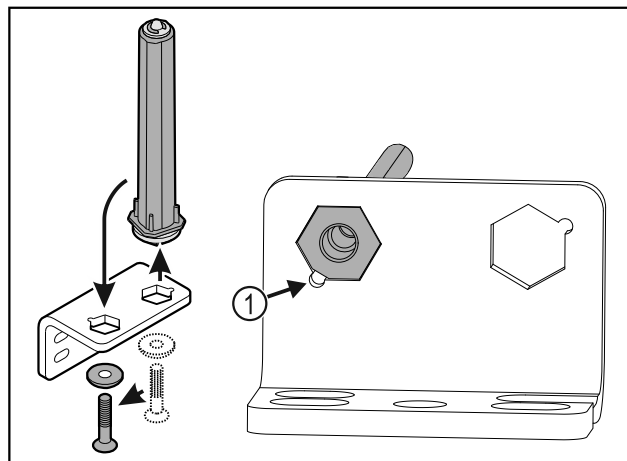

Fig. 30
- Make sure the pin chamfer Fig. 30 (1) faces the round hole when you put it in.